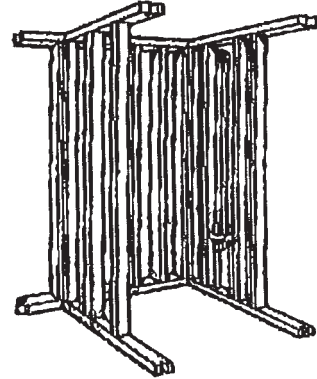

Fig. 1
1. Construct a framing pocket which allows for the insertion of your particular unit model. (Fig. 1) Check all dimensions against the bath unit to ensure a proper fit. Our drain and overflow openings are cut for standard fittings.